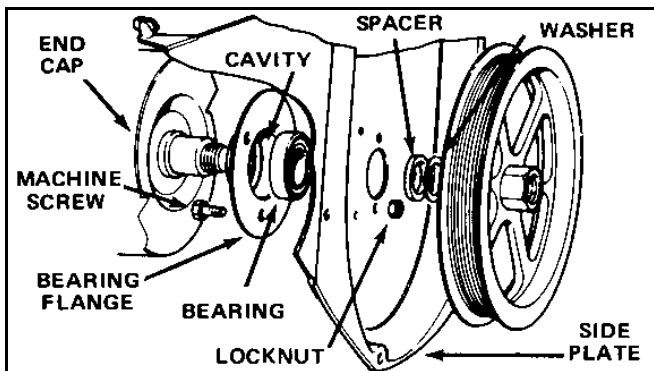

Figure 81 0217-053
- Drill (3) 3/16 diameter holes in sideplate. Pack the inside of the bearing flange with enough heavy grease to fill excess space in the cavity when bearing is inserted (Figure 81).
Mount the bearing flange and bearing to the sideplate with (3) machine screws and locknuts (Figure 81).
Slide the end cap shaft through bearing flange, bearing, and sideplate (Figure 81).
Install the spacer, washer, and rotor pulley on the end cap shaft. Tighten the rotor pulley by turning nut counterclockwise finger tight (Left hand thread) (Figure 81.).